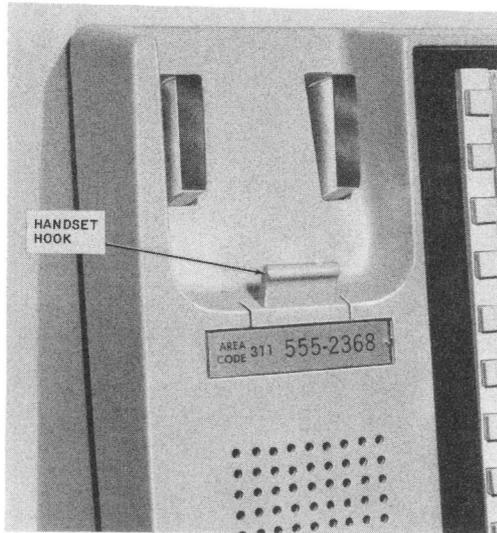

Fig. 11—960A01M (MD) Telephone Set With Handset Hook Reversed for Wall Mounting
- (9) Remove the station number card retainer and station number card from the upper housing.
- (10) Disengage the captive screw from the chassis and lift out the concealed handset hook and screw from the cavity in the upper housing.
- (11) Completely remove the captive screw from one side of the handset hook and insert it into the other side.
- (12) Place the handset hook back into its cavity in the upper housing, engage the screw with the chassis, and fasten the hook down (Fig. 11).
- (13) Replace the station number card and card retainer.